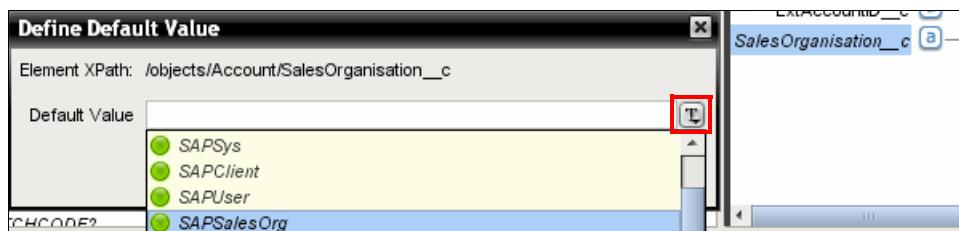

Figure 10-19 Use case SAP to SFDC TIP wizard define mapping for SAP sales organization
1. Right-click the **SalesOrganisation_c** field, and select **Define Default Value**. Click the symbol on the right side of the entry field as indicated in Figure 10-19, and select the configuration property **SAPSalesOrg**. Click **OK**.